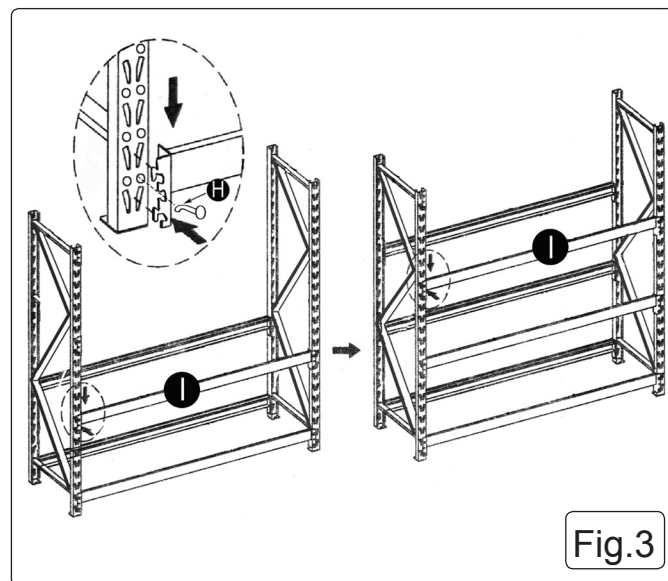

Fig.3
4.3.3 **See Fig.3.** Continue to assemble the next two pairs of cross beams (I) at the heights required. The end frames allow adjustment in 2" increments. Each pair of beams must be mounted at the same height. Ensure that all tabs on the cross beam brackets are fully engaged in the slots in the uprights and that the cross beams are properly tapped down into place then secured with a locking pin (H).